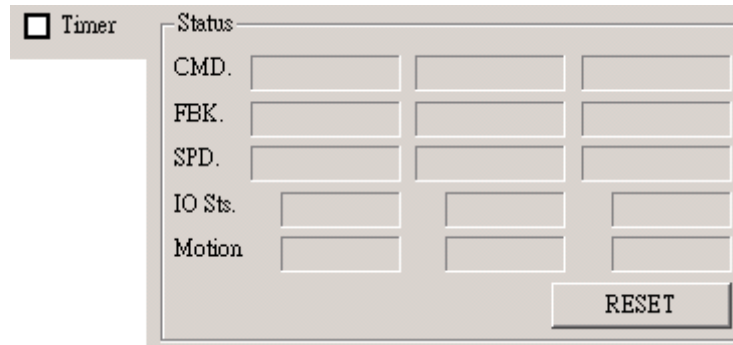

Figure 3.55
**Depth item:** Total distance of 3rd axis. (See Fig. 3.55).